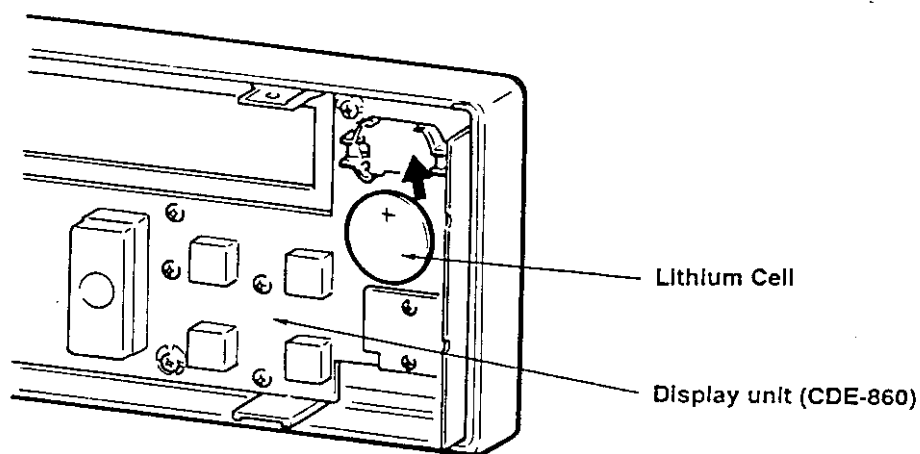

Figure 5-2 Replacing the Lithium Cell
- (1) Disconnect the power cord from the NRD-545.
- (2) Remove the top and bottom covers as shown in item 7.2.
- (3) Remove the control panel from the NRD-545 body.
- (4) Replace the lithium cell attached to the display unit as shown in Figure 5-2.
- (5) Attach the control panel onto the NRD-545 body.
- (6) Attach the top and bottom covers. This completes the procedure.